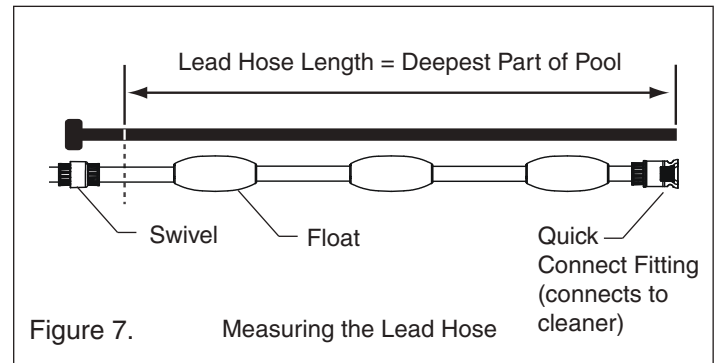

Figure 7.
2. If the pool depth is less than 10 ft. [3 meters], disconnect the soft light grey lead hose, labeled section one, from the swivel end. Cut the lead hose so the length is equal to the deepest part of the pool. **See figure 7.**